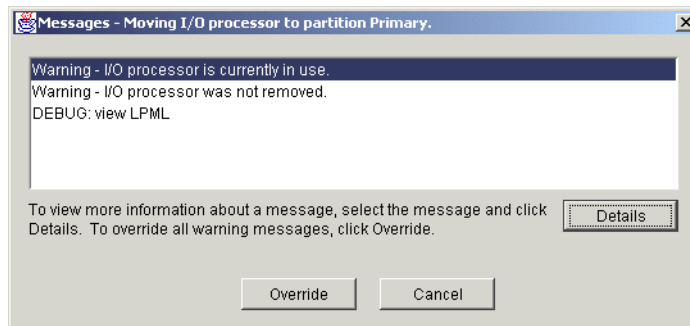

Figure 8-27 Moving IOP error message
5. If you receive an error message, as shown in Figure 8-27, then the IOP is still in use. Check all devices attached to the IOP to verify that they have been varied off before overriding this message.